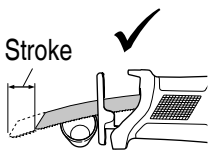
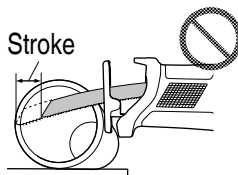
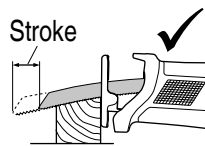
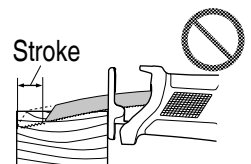

Fig. 16
Fig. 17
Fig. 18
Fig. 19
- Select a saw blade of the most appropriate length. Ideally, the length protruding from the base of the saw blade after subtracting the stroke quantity should be larger than the material (Fig. 16, Fig. 18). If you cut a large pipe, large block of wood, etc., that exceeds the cutting capacity of a blade; there is a risk that the blade may contact with the inner wall of the pipe, wood, etc., resulting in damage (Fig. 17, Fig. 19).